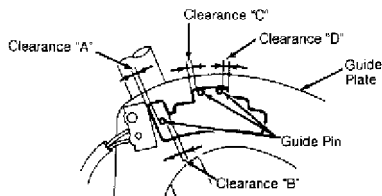

Fig. 3: Checking Gearshift Lever Adjustment Clearances
2) Adjust lever so clearance between guide plate and guide pin with lever in position "P" is as specified. See Fig. 3. Also, see the GEARSHIFT LEVER ADJUSTMENT SPECIFICATIONS table. Tighten rear lock nut to 14-21 ft. lbs. (19-28 N.m).
3) Place gearshift lever in "N" and "D" positions to ensure clearances are correct. See GEARSHIFT LEVER ADJUSTMENT SPECIFICATIONS table. See Fig. 3. Adjust lever if necessary. Install boot plate,
See Fig. 3.